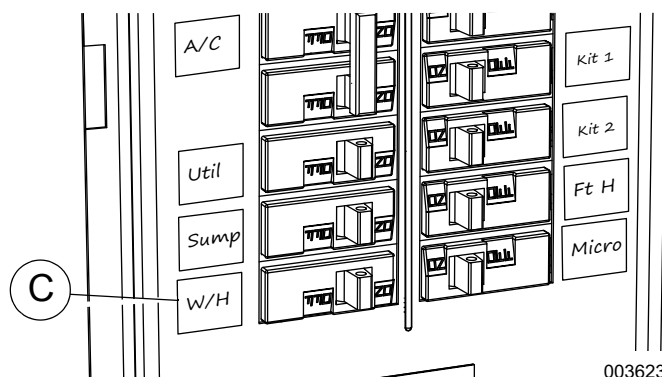

Figure 3-4. Label Breakers
- See Figure 3-4. Apply provided circuit directory labels (C) and mark each circuit accordingly with a pen.